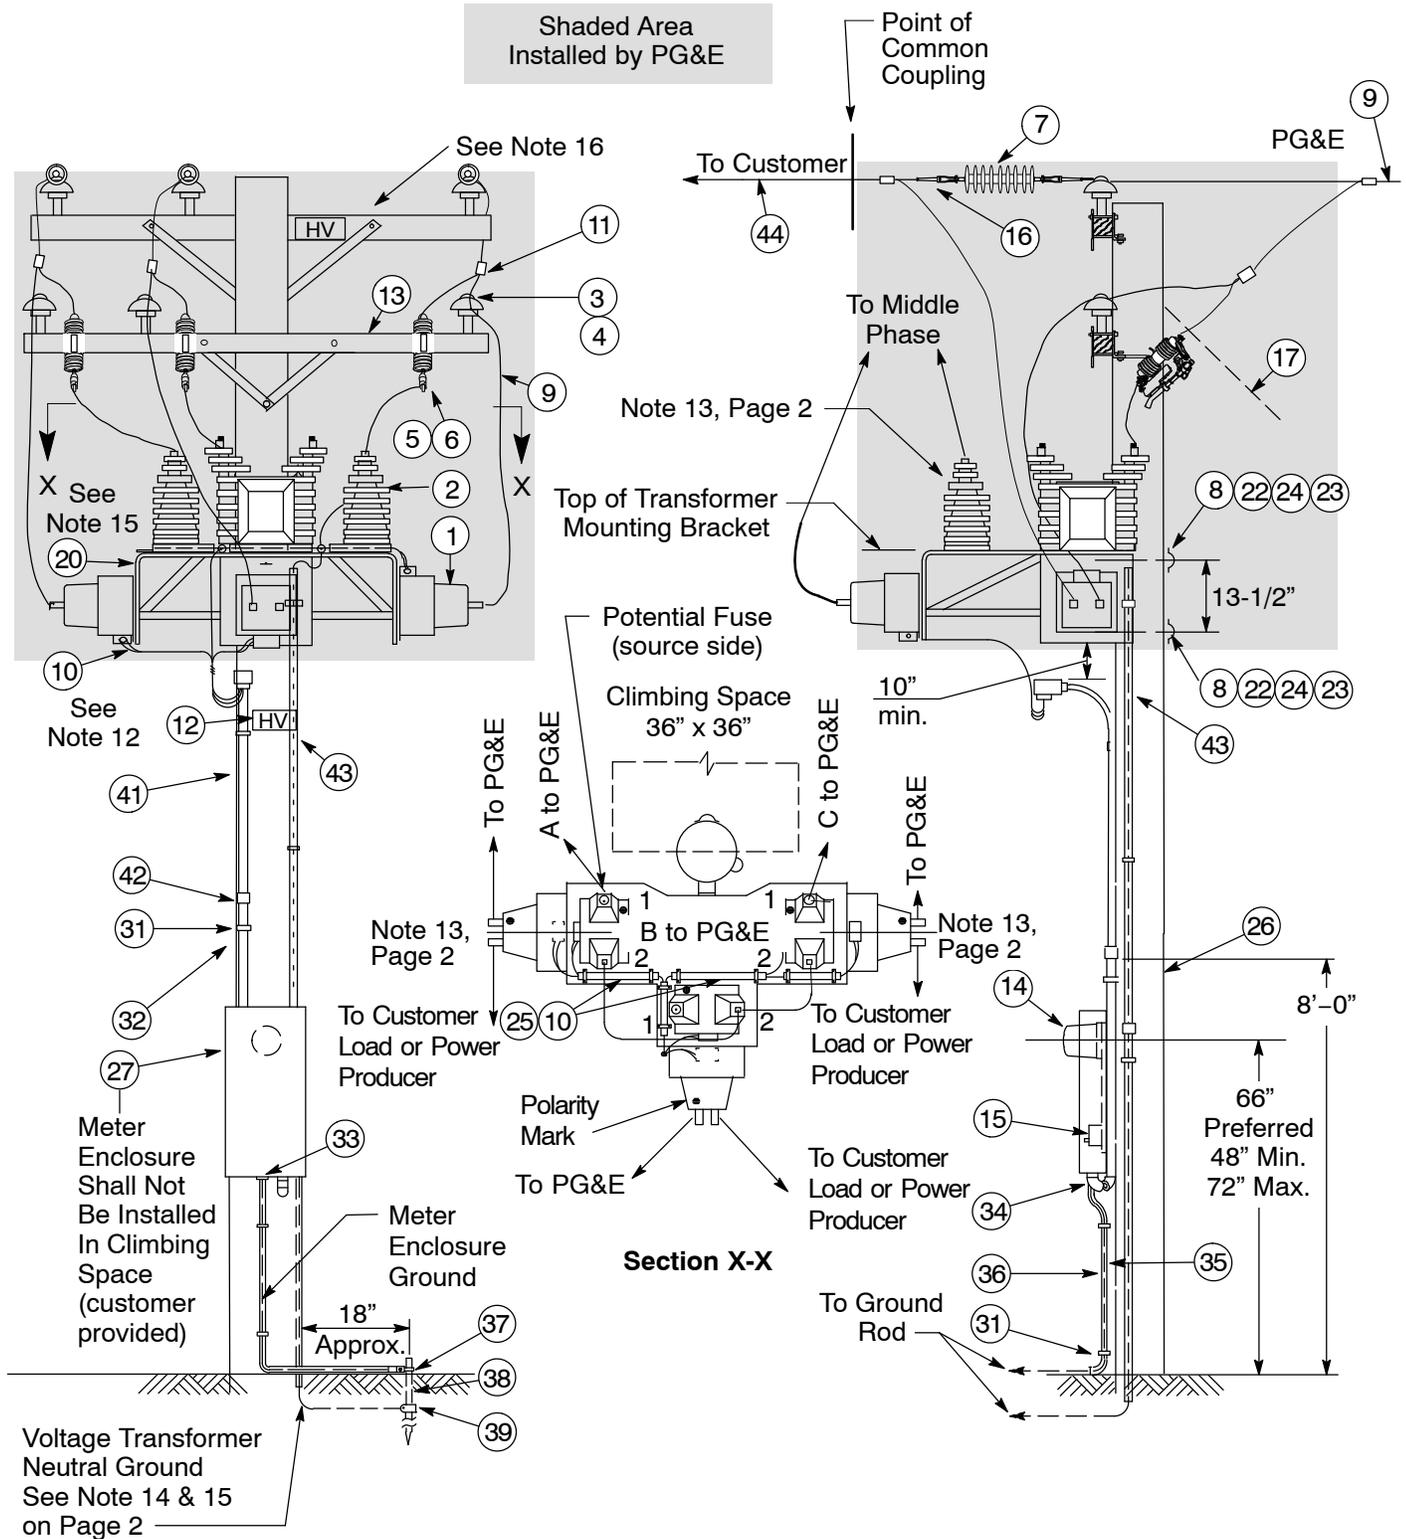

Figure 1
16. The primary conductor open point may be constructed using tension dead-end construction (Document 015116) (Figure 1), slack span dead-end construction (Figure 2), air switch (Document 066195) (Figure 3), or flying bells.
1. Revised Figure 1 on Page 5 and Figure 2 on Page 6, added Reference Document for List of Materials for Item No. 24 in Table 2, Page 3.